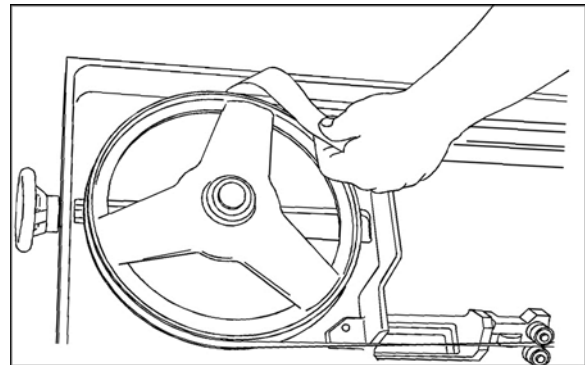

Figure 18: Checking blade tracking
9. As you adjust the blade toward the flange, insert a strip of paper between the blade and wheel as shown in *Figure 18*.